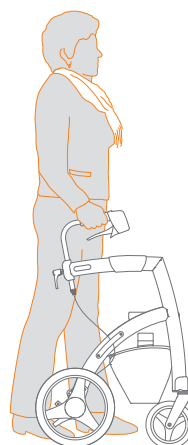

Figure 18: Walk upright close to the rollator.
- b.** While walking, stand in between the handles and, if necessary, lean on the Rollz Motion. This way you walk as close as possible to the walker, which offers the most support (**Figure 18**).